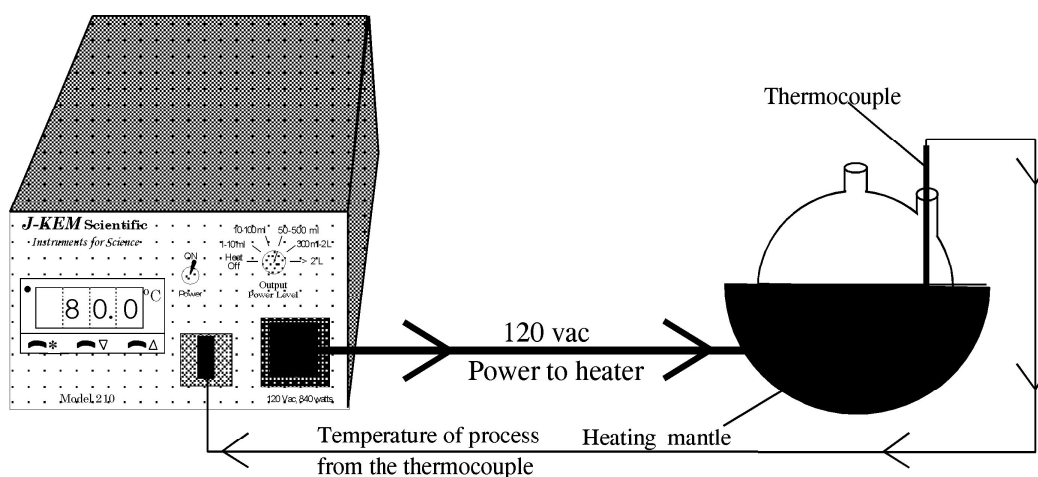

Figure 2
3.13 Do's and Don'ts When Using Your Controller. The controller, heater and thermocouple form a closed loop feedback system (see Fig. 2 in Section 4.1). When the controller is connected to a heater, the feedback loop should not be broken at any point.